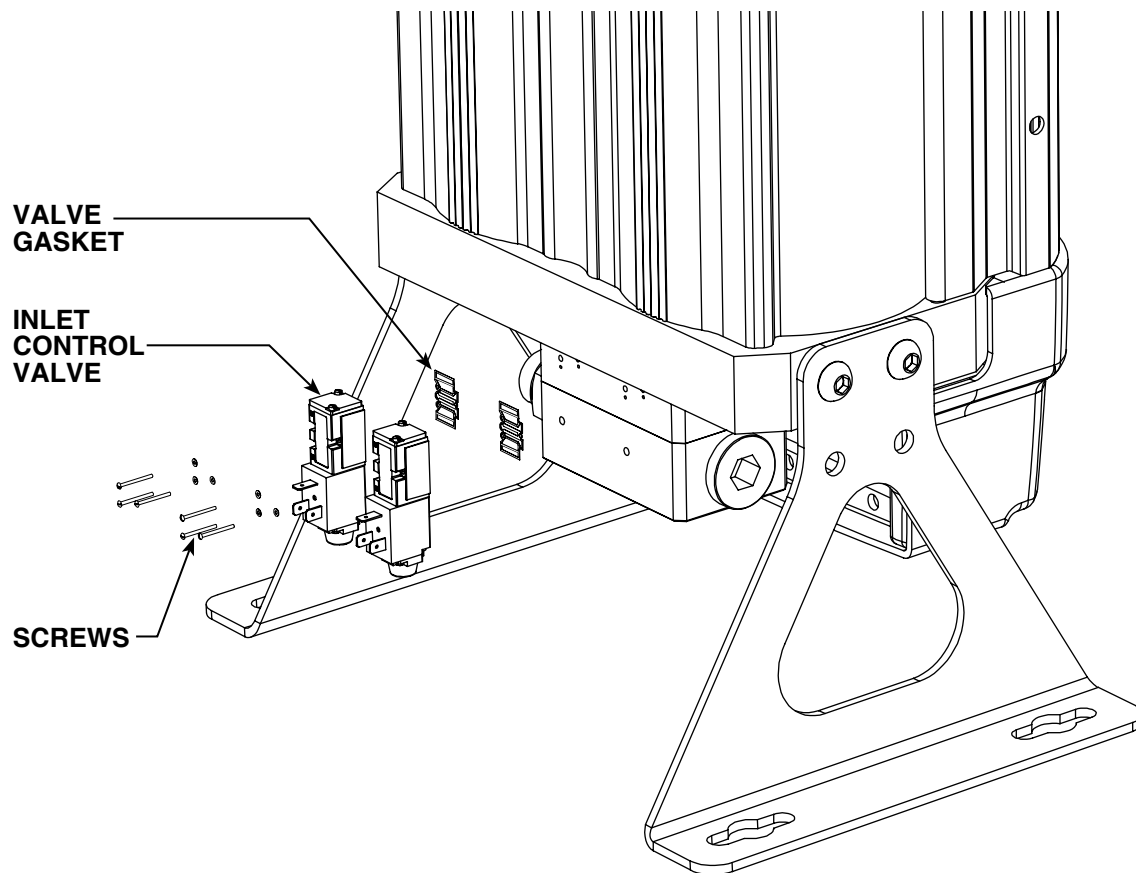

Figure 1.
1. Remove the 6x fixing screws and 6x washers to release the inlet control valves from the valve block. (See Figure 1)